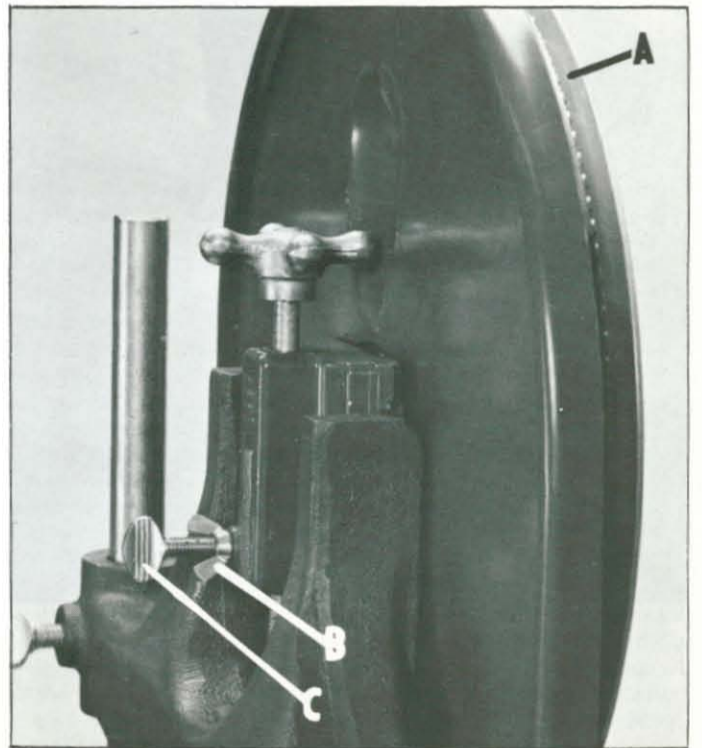

Fig. 17
After tension has been applied to the blade, revolve the wheels slowly forward by hand and watch the blade (A) Fig. 17, to see that it travels in the center of the upper tire. If the blade begins to creep toward the front edge, loosen the wing nut (B) and tighten the thumb screw (C). This will tilt the top of the wheel toward the back of the machine and will draw the blade toward the center of the tire. If the blade creeps toward the back edge, turn the thumb screw in the opposite direction. Adjust the thumb screw (C) only a fraction of a turn at a time. **NEVER TRACK THE BLADE WHILE THE MACHINE IS RUNNING.** After the blade is tracking in the center of the tires, tighten the wing nut (B) Fig. 17.